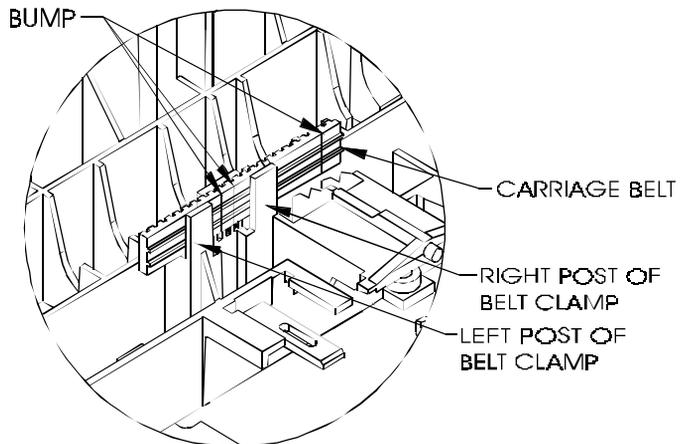

Figure 5-14. Carriage Belt Clamp.
10. Once the Carriage Assembly is removed from the Slide Shaft, turn it over so that you can see the Belt Clamp. See Figure 5-14.
1. To install the Belt onto the Carriage Assembly, the “bumps” on the belt (where the ends of the belt are joined together to make the belt continuous) must be positioned between the left and right posts of the Belt Clamp. See Figure 5-14.
3. Check the position of the Carriage Belt to make sure it matches Figure 5-14.